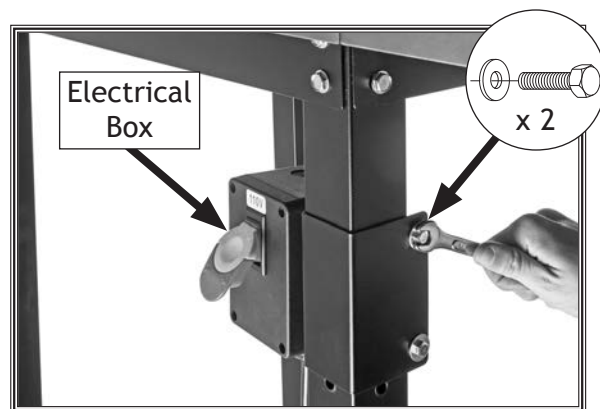

Figure 5. Attaching switch box to a stand.
1. Attach switch box (see **Figure 5**) to leg of your router table stand with pre-installed clamp and (2) 1/4"-20 x 2 1/2" hex bolts and (2) 1/4" flat washers.